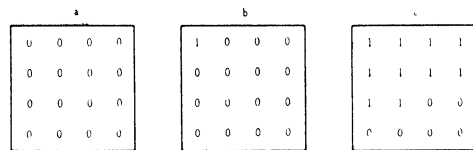

Fig. 1 Addressing method of for 16 bit memory in the Marching pattern
- (1) Clear all bits See Fig. 1 (a)
- (2) Read "0" from 0th address and check that the read data is "0". Hereafter, "Read" means "checking and judging data"
- (3) Write "1" on 0th address. See Fig. 1 (b)
- (4) Read "0" from 1st address.
- (5) Write "1" on 1st address.
- (6) Read "0" from nth address.
- (7) Write "1" on nth address See Fig. 1 (c)
- (8) Repeat (6) to (7) to the last address. Finally, all data will be "1".
- (9) After all data become "1", repeat from (2) to (8) replacing "0" and "1".